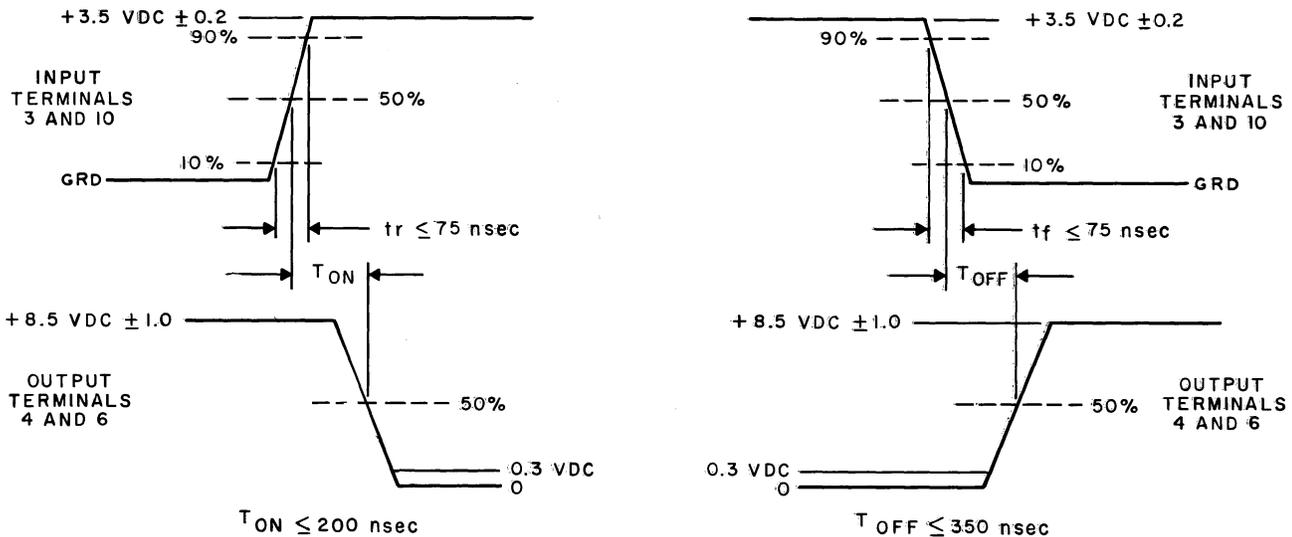

Fig. 27 - (Transmitter Output Test)
(3) The input wave forms on terminals 3 and 10 and the output wave forms on terminals 4 and 6 shall be as specified in Fig. 27.